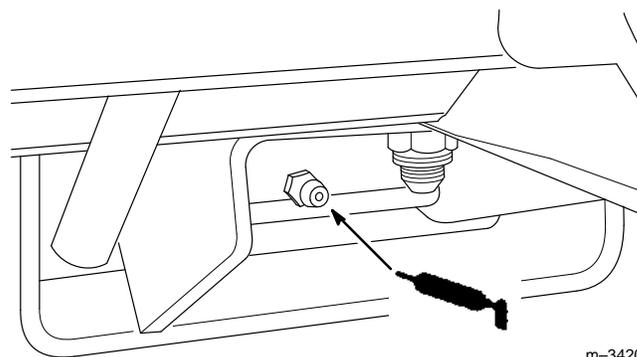

Figure 32
- Grease the fitting on the brake pedal (Fig. 32).